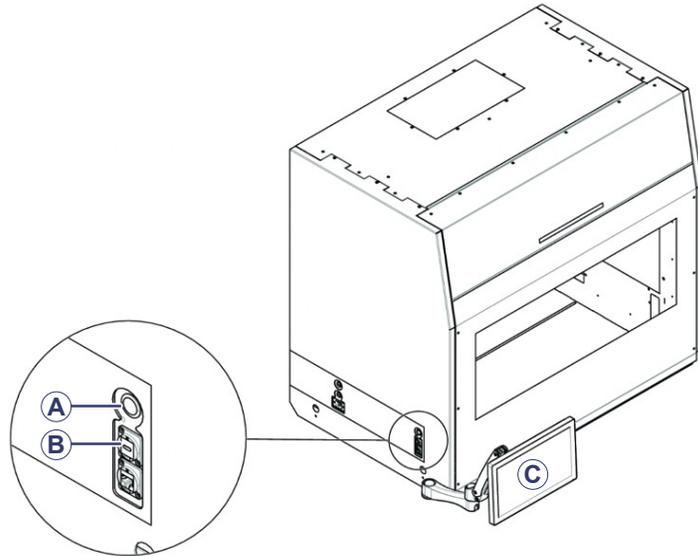
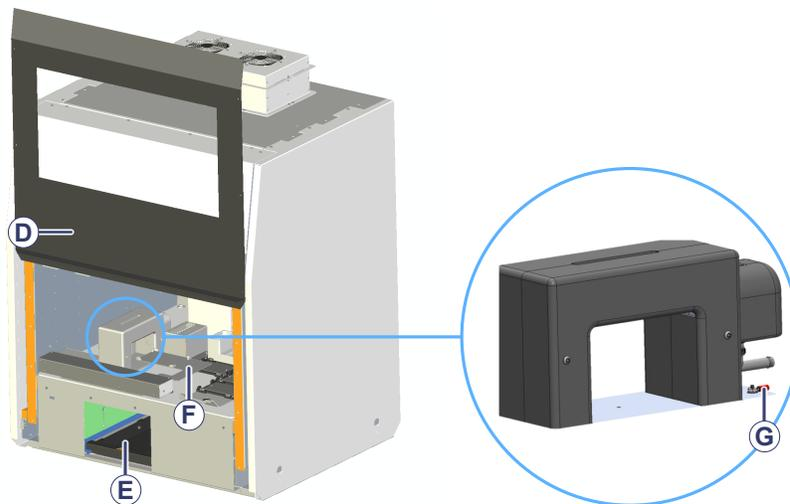
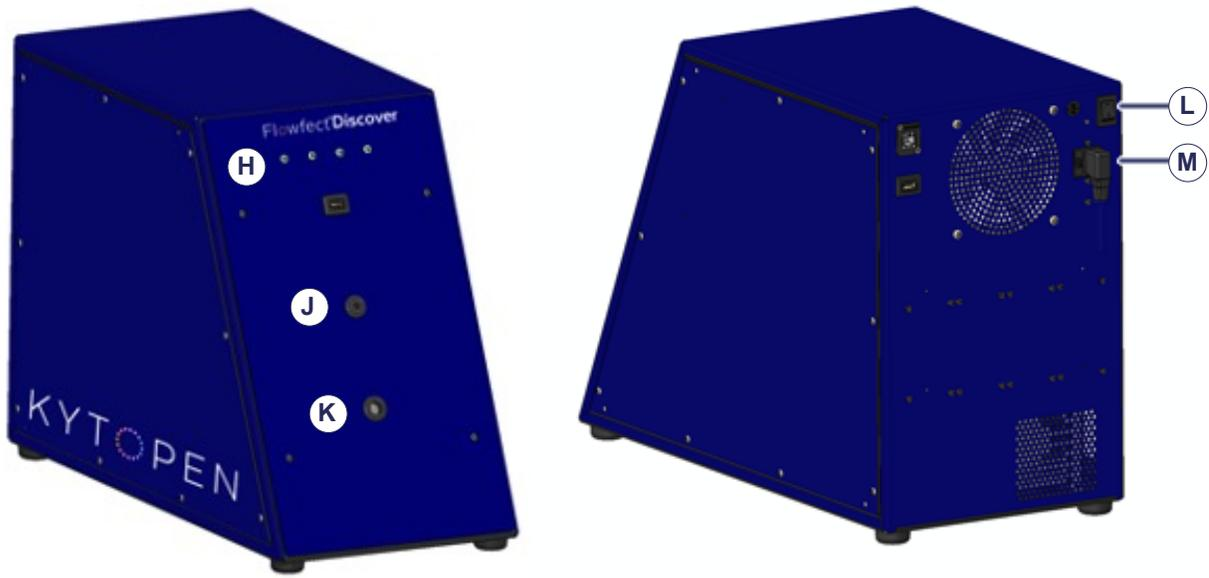

Figure 1: Flowfect Discover™ liquid handler (from left)
Figure 2: Flowfect Discover™ liquid handler (on the left) and Electric Discharge Manifold (EDM) (on the right)
Figure 3: Flowfect Discover™ control unit, front and back
Flowfect Discover™ includes reusable and single use components. Diagrams of Flowfect Discover™ with individual components are shown in Figure 1, Figure 2, and Figure 3 below.
- 8.3.3 **Never move the liquid handler** (Figure 1). Contact Kytopen support (see Section 1.1) if this is required at any point after installation.
- 8.4.1 To turn on the system, press the power button on the left side of the liquid handler (see Figure 1, component A). The liquid handler will begin the initialization process.
- 8.4.4 The control unit power switch (Figure 3, component L) always remains in the on position. The control unit will power on with the liquid handler (step 8.4.1).
Interacting with the Flowfect Discover™ software GUI is done via the touchscreen connected to the liquid handler (Figure 1, component C). If desired, an external keyboard and mouse can be connected to interact with the GUI for desktop mode. Contact Kytopen Support for assistance with connecting a keyboard and mouse if not done at installation.